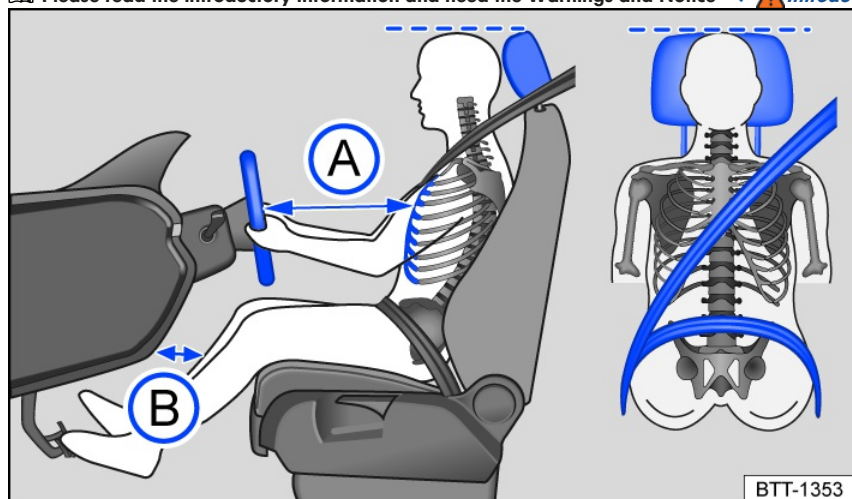

Fig. 14 General example: correct distance between the driver and the steering wheel, correct safety belt routing and correct head restraint adjustment.
- Adjust the head restraint so that the upper edge of the head restraint is in line with the upper portion of the head as much as possible, but not lower than eye level. Position the back of the head as close as possible to the head restraint *fig. 14*.
- Adjust the steering wheel so that the distance between the steering wheel and your chest is at least 25 cm (around 10 inches) fig. 14 and you can hold the steering wheel firmly at the sides with both hands and your elbows slightly bent.
- Adjust the forward/back position of the driver seat so that you can press the pedals while your legs are slightly bent and there is at least 10 cm (around 4 inches) of space between the instrument panel and your knees fig. 14.